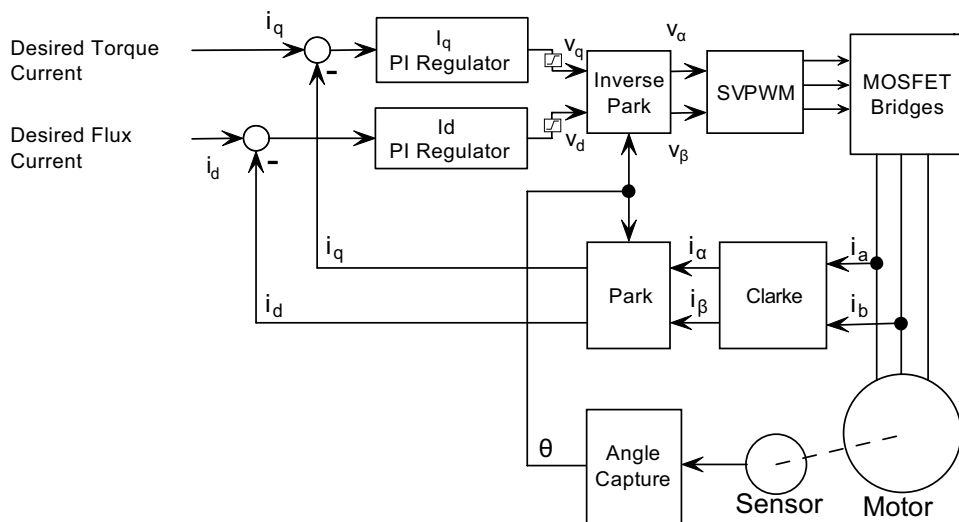

FIGURE 8-25. FOC operation
Field Oriented Control is available on all models of Roboteq motor controllers. It uses a classical implementation as described in the figure 8-25. The current in the motor phase is captured, along with the rotor's angle. From this are computed the useful I_q and waste-ful I_d . Two Proportional-Integral (PI) regulators then work in parallel to control the output voltage amplitude and phase so that the desired Torque (I_q) and Flux (I_d) currents are met. The desired Flux current is typically set to 0 for SPM brushless dc motors, and so the regulator will work to totally eliminate the Flux current. The output of the PI d-q axis current controllers yield the d-q axis reference voltage commands (V_d , V_q) applied to the motor through the Space Vector Pulse Width Modulation (SVPWM) technique.